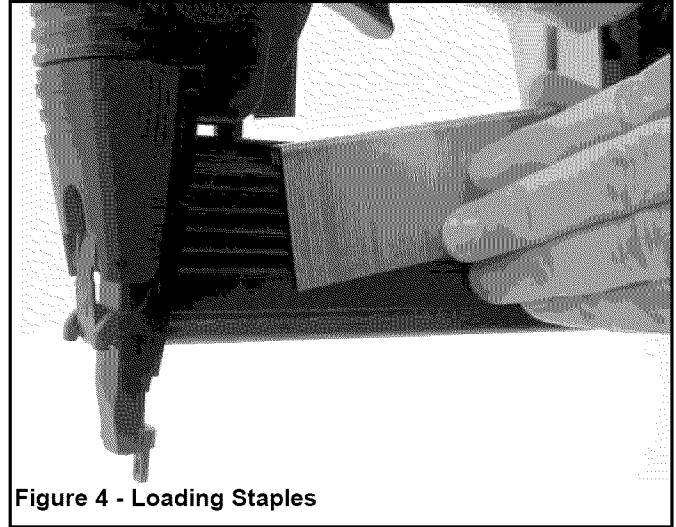

Figure 4 - Loading Staples
- Loading staples: Position staples so that the staple strip straddles and rests on the inner wall of the magazine (see Figure 4).